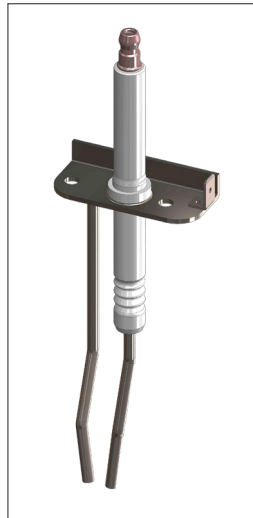

Fig. 7 - Prestige Trimax - New Igniter
- Install the new igniter (See **Fig. 7**), with its new gasket, on the burner mounting plate support, paying attention not to damage the new insulation.